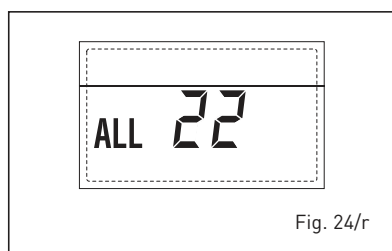

Fig. 24/r
– **ANOMALIA GUASTO SONDA MANDATA SECONDA ZONA MISCELATA "ALL 23" (fig. 24/s)**